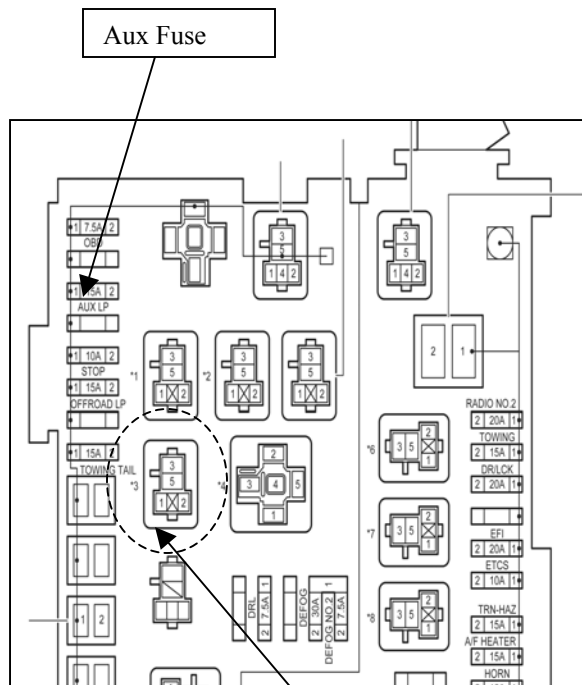
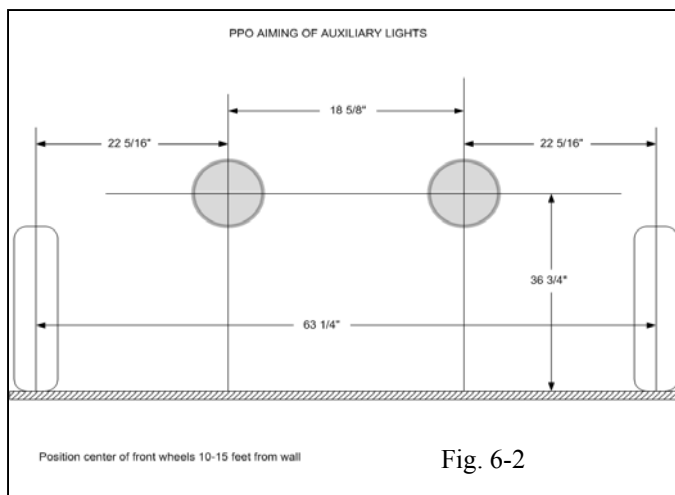

Fig. 6-1
Fig. 6-2
- (a) Install the provided 15 amp fuse. (Fig. 6-1)
- (1) Install the provided relay.
- (h) Adjust the horizontal and vertical aiming of the lamps as shown. Place horizontal and vertical cross hairs on a wall 10 to 15 feet in front of the vehicle as shown. The center of the bright spot of the beam pattern should be centered on the cross hairs. (Fig. 6-2)